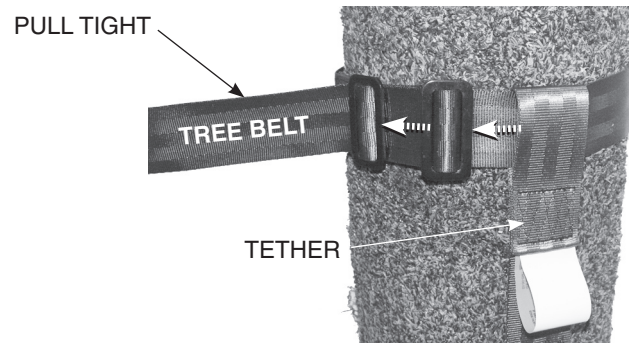

FIGURE 12
5. When you reach the height of your stand platform, **DO NOT UNHOOK YOUR CLIMBING BELT**, you must attach the harness tether to the tree, above the treestand, using the provided tree belt. Wrap the tree belt through the loop end of the tether and around tree. Take the tail end of tree belt and feed it through (2) adjustment slides on tree belt. **SEE FIGURE 12.** Pull the tail of tree belt tight.
NOTE: Be sure the (2) adjustment slides are facing away from tree, preventing any obstruction. Do not position tether on or between the (2) tree belt adjustment slides. SEE FIGURE 12.